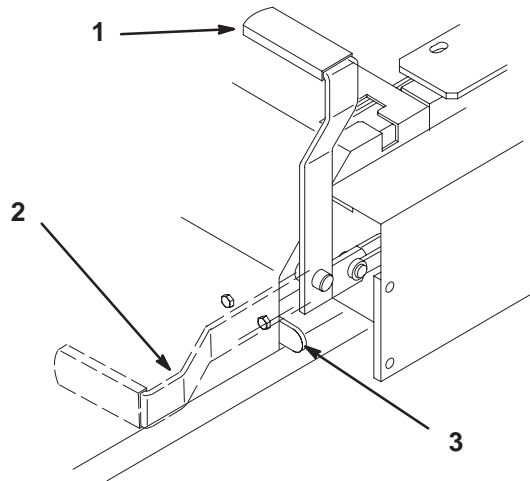

Figure 14
1. Push forward and down on the parking brake lever to release the parking brake (Fig. 14). The parking brake is “DISENGAGED” and the lever rests against the brake stop.
2. Pull back and up on the parking brake lever to set the parking brake (Fig. 14). The parking brake lever should stay firmly in the “ENGAGED” position.